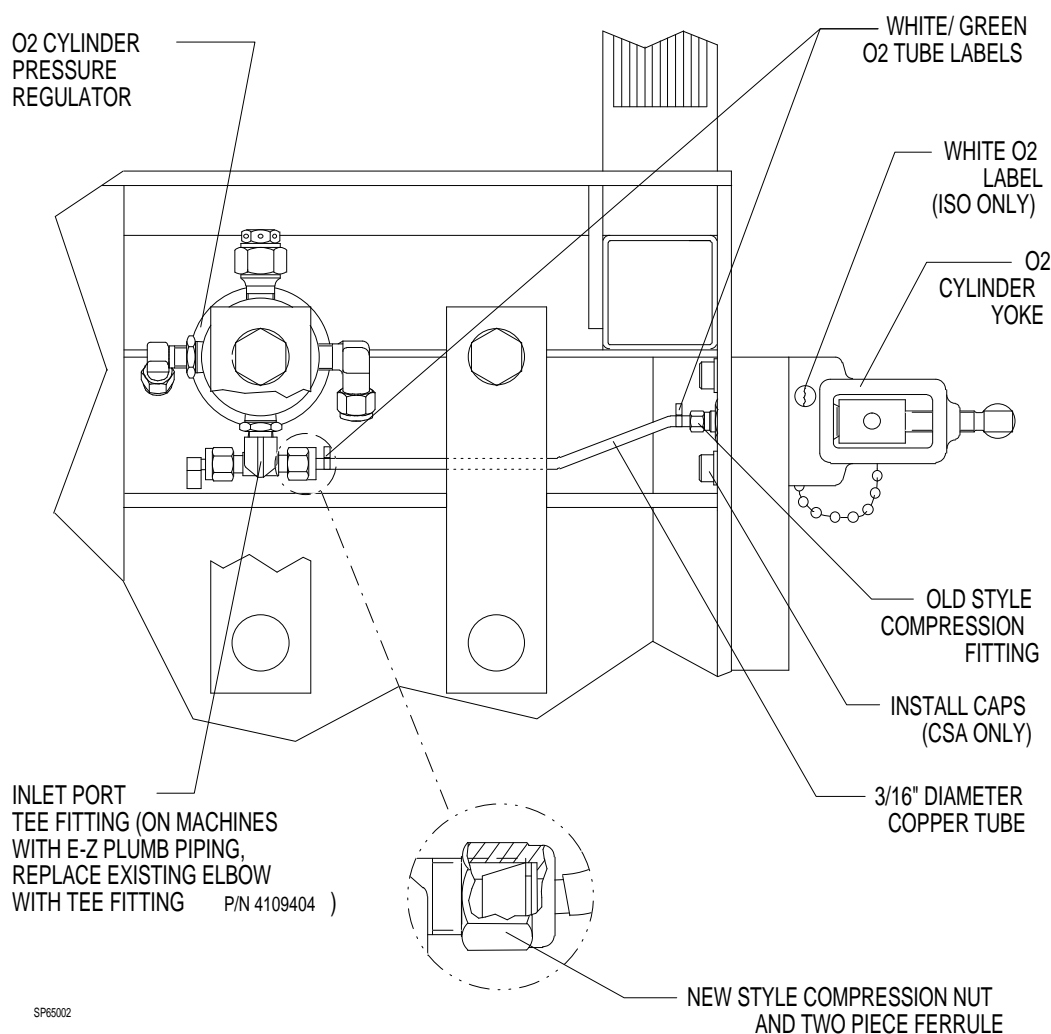

Figure 3: COPPER TUBE CONNECTIONS
10. Connect a 3/16 in. diameter pre-bent copper tube between the O₂ yoke assembly check valve and the TEE fitting in the O₂ cylinder pressure regulator inlet port (see Figure 3). Carefully form and trim the tubing as necessary, and install the correct style 3/16 in. compression nut and ferrule on the inlet port end of the tube. Tighten the connections at both ends securely, and install a white/green "O₂" label at each end of the tube.